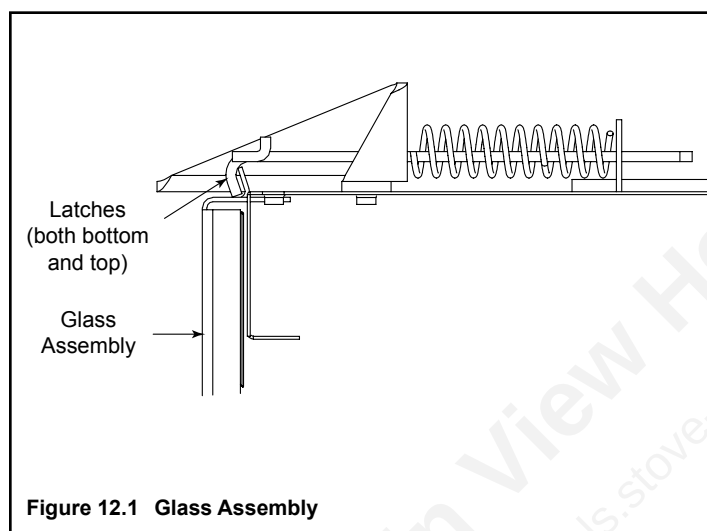

Figure 12.1 Glass Assembly
- Pull the four (30/33/36 in. appliances) or seven (42 in. appliance) glass assembly latches out of the groove on the glass frame. See Figure 12.1.